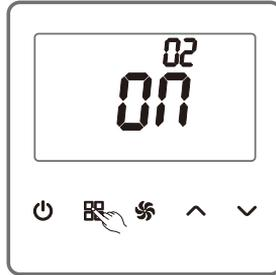

Figure 8
As shown in the Figure 8, on the parameter setting page, press  (MODE) to switch the option number to 02.  (UP) or  (DOWN) is provided to allow a switch between ON and OFF.